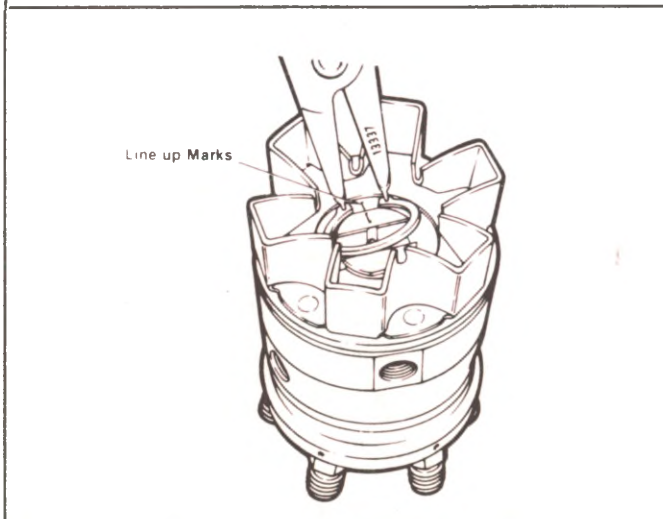

Fig. 3-19 Governor Cage Snap Ring.
22. Remove governor cage retaining snap ring. Figure 3-19.
2. Align timing marks on retainer assembly and rotor and install governor weight retainer assembly. Figure 3-19.